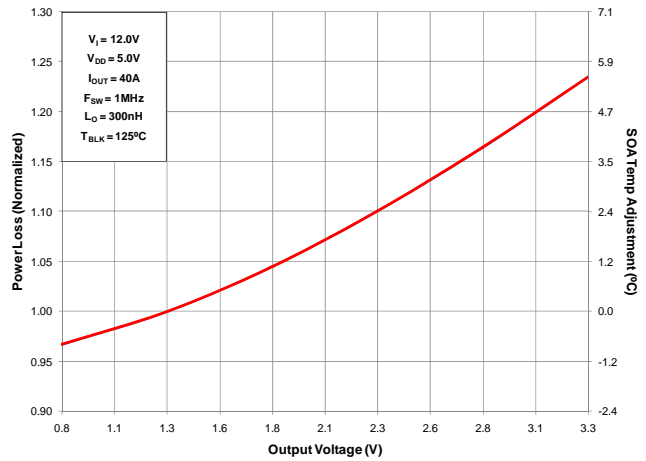

Figure 4 Normalized Power Loss vs. Output Voltage
- (Figure 4) Normalized power loss for output voltage \approx 1.23
- (Figure 4) SOA temperature adjustment for output voltage $\approx 5.5^{\circ}\text{C}$